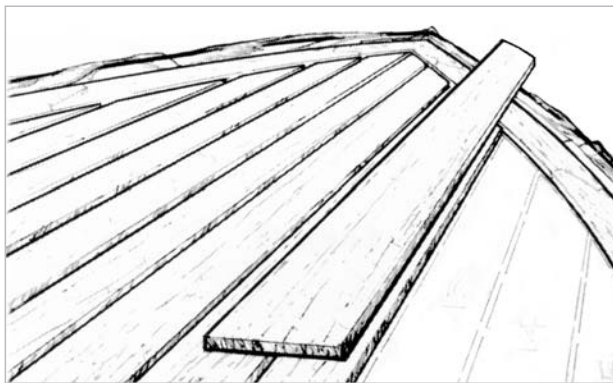

Figure 6-4 Cut and fit the teak strips. Mask off and protect surrounding surfaces.
1. Plan the location and pattern for the layout of the teak strips (*Figure 6-4*). Cut the strips to fit and mark them for reference as necessary. Mask off the application area and cover the surrounding area with plastic for protection against spills.